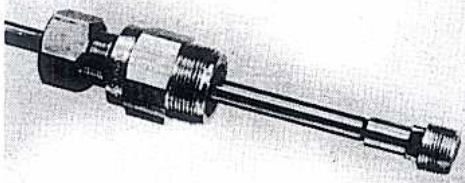

FIGURE 37
2. Attach the completion plug to the boring bar or shaft. Lubricate these threads and be sure that these threads screw together freely without binding. Apply non-hardening pipe thread "dope" to the completion plug threads. FIGURE 37.